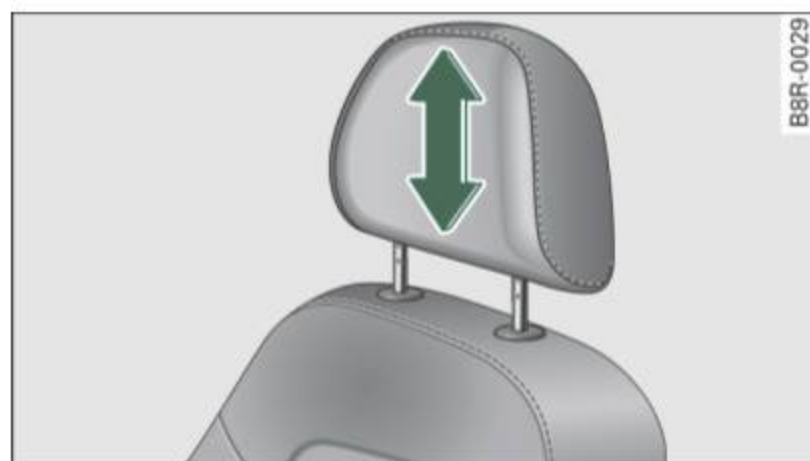

Fig. 72 Front seat:
The head restraints on the *front* seats can be adjusted to provide safe support to head and neck at the optimum height ⇒ fig. 72. Adjust the head restraint so the upper edge is as even as possible with the top of your head. If that is not possible, try to adjust the head restraint so that it is as close to this position as possible ⇒ page 76.
- Grasp the sides of the head restraint with both hands and slide the head restraint upward/downward, until you feel it click into place ⇒ fig. 72.